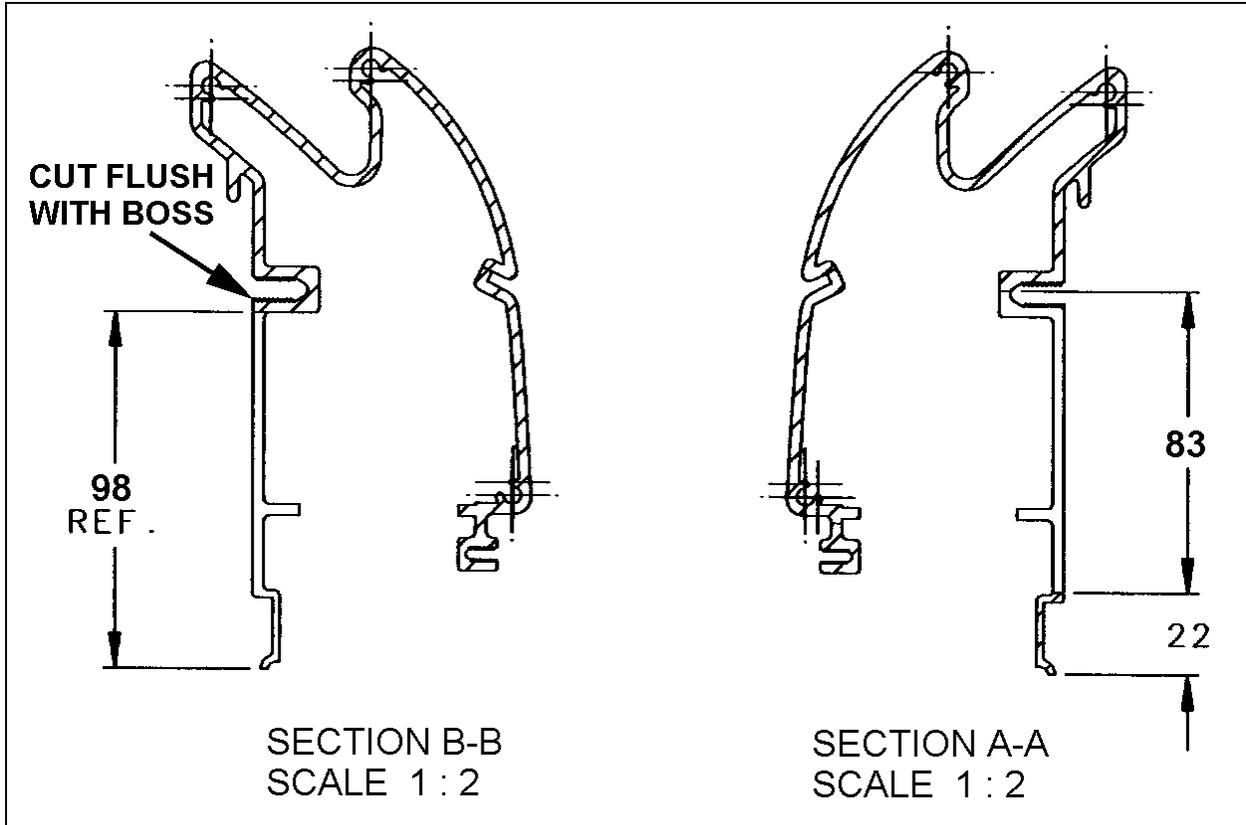

FIGURE 1 : HAND RAIL
2. Remove a portion of 4 inches (100 mm) from the aluminum extrusion and hand rail (refer to figures 1 and 3).
3. Remove a portion of 4 inches (100 mm) from the aluminum extrusion and hand rail (refer to figures 1 and 3).